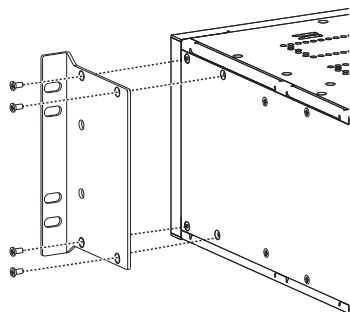

FIG. 6 Attach rack ears to sides of enclosure
1. Attach rack ears per FIG. 6.